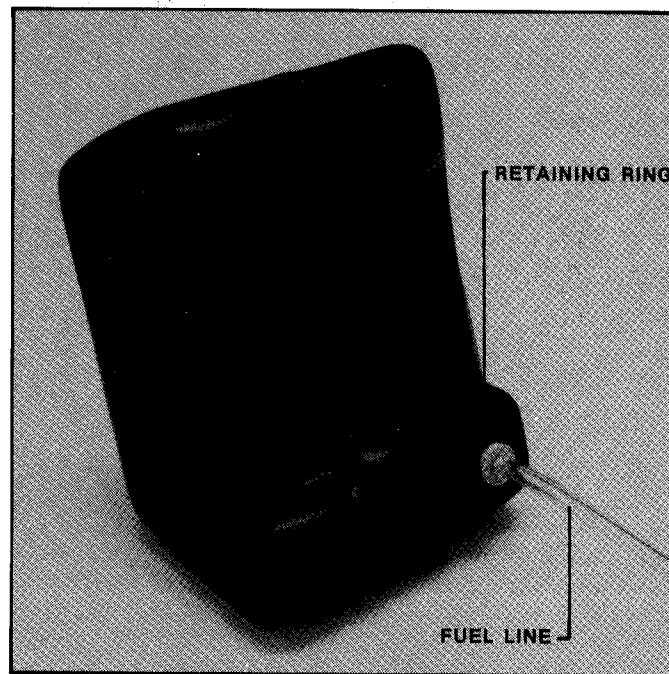

FIGURE 4.2
4.3 The fuel line and filter assembly is disassembled from the tank by first carefully removing the retaining ring from around the fuel line. The end of the filter is left projecting out the bottom of the fuel tank. With the ring removed force the line and filter assembly inside the tank. Next reach inside the tank through the fill neck and pull the assembly free from the tank. See Figure 4.2.